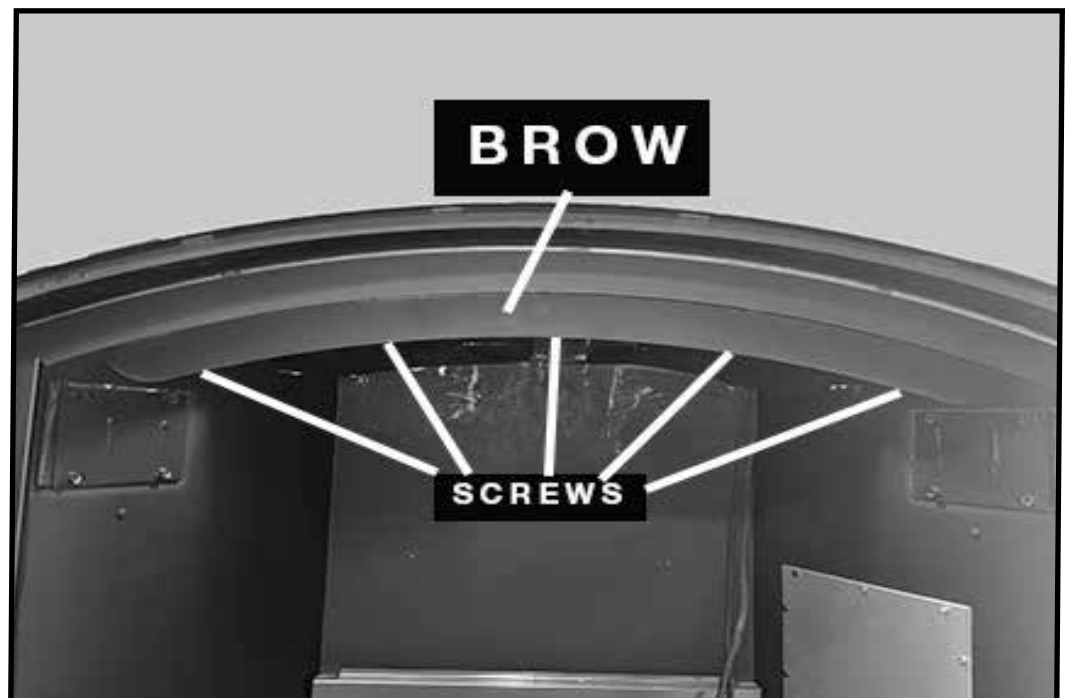

Figure 63: TC36D Arch Brow Piece screw location.
1. Remove the Brow Piece located on the underside of the firebox heat shield. The Brow is secured to the heat shield with five screws behind the Brow front flange. Figure 63.